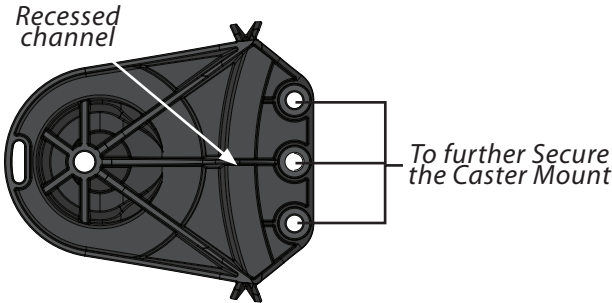

FIG. 6a
**6** The Caster assemblies must be adhered to the Bucket (F) with a single smooth motion so that the bottom edge of the Bucket fits within the recessed channel of the Caster Mount [FIG. 6a].